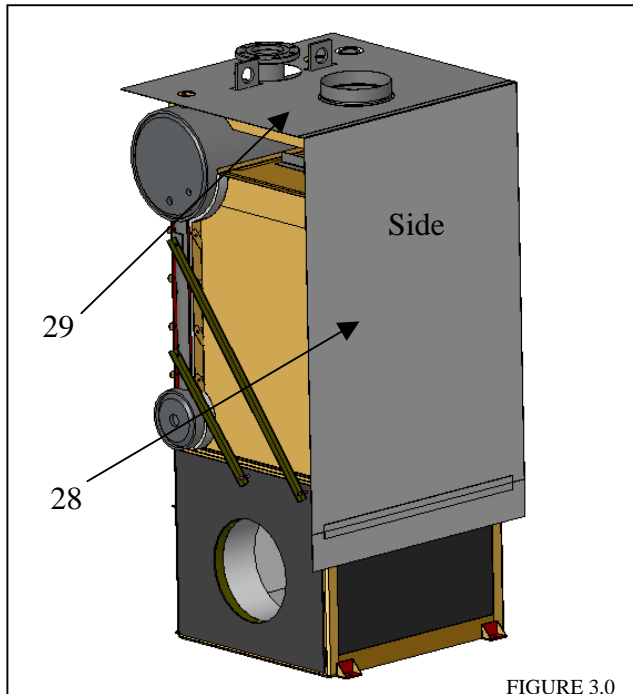

FIGURE 3.0
3.1 Place boiler jacket top panel (Item #29) in place. See Fig. 3.0
3.2 Place jacket side panel (Item #28) upon rear edge of the boiler base assembly. See Figure 3.0.